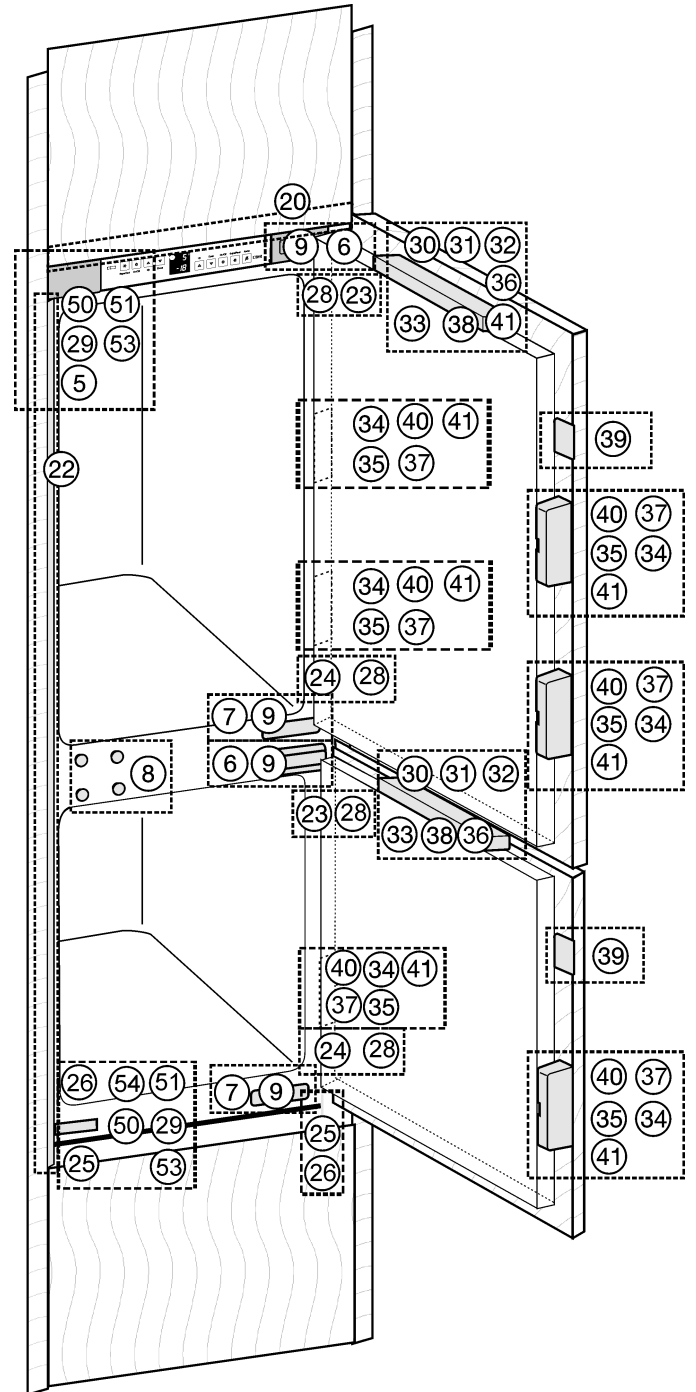
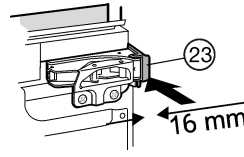
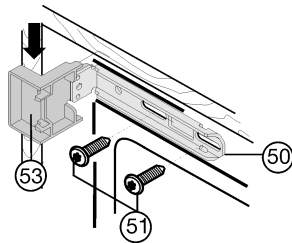
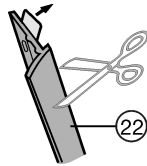

Fig. 6
Fig. 10
Fig. 11
Fig. 12
- ▶ Remove the covers Fig. 6 (5,6,7).
- ▶ Clip spacer *Fig. 10 (23)* onto the upper hinge and spacer *Fig. 6 (24)* onto the lower hinge.
- ▶ Attach the top cover *Fig. 11 (53)* and bottom cover *Fig. 11 (50)* to the mounting brackets.
- ▶ Fasten the mounting brackets *Fig. 11 (50)* at the top and bottom with screws *Fig. 11 (51)* so that the brackets can still be moved a little to the left and right.
- ▶ Strip the protective film off the cover trim *Fig. 12 (22)*. Apply the cover trim *Fig. 12 (22)* to the projection of the cover *Fig. 11 (53)* on the handle side, flush with the front, and adhesively affix it to the side wall of the appliance.
- ▶ If necessary, shorten the cover strip *Fig. 12 (22)* at the bottom: The cover strip *Fig. 12 (22)* has to end 3 mm above the upper edge of the lower mounting bracket *Fig. 6 (50)*.
- ▶ Slide in the appliance until the covers *Fig. 11 (53)* abut *Fig. 11* against the side wall of the kitchen unit.
- ▶ Allow for the extra distance (depth of the door stop components): Allow hinges and covers *Fig. 11 (53)* to protrude by the extra distance.
- ▶ Vertically align the appliance by means of the adjustable-height feet *Fig. 6 (25)*, using the accompanying open-ended spanner *Fig. 6 (26)*.